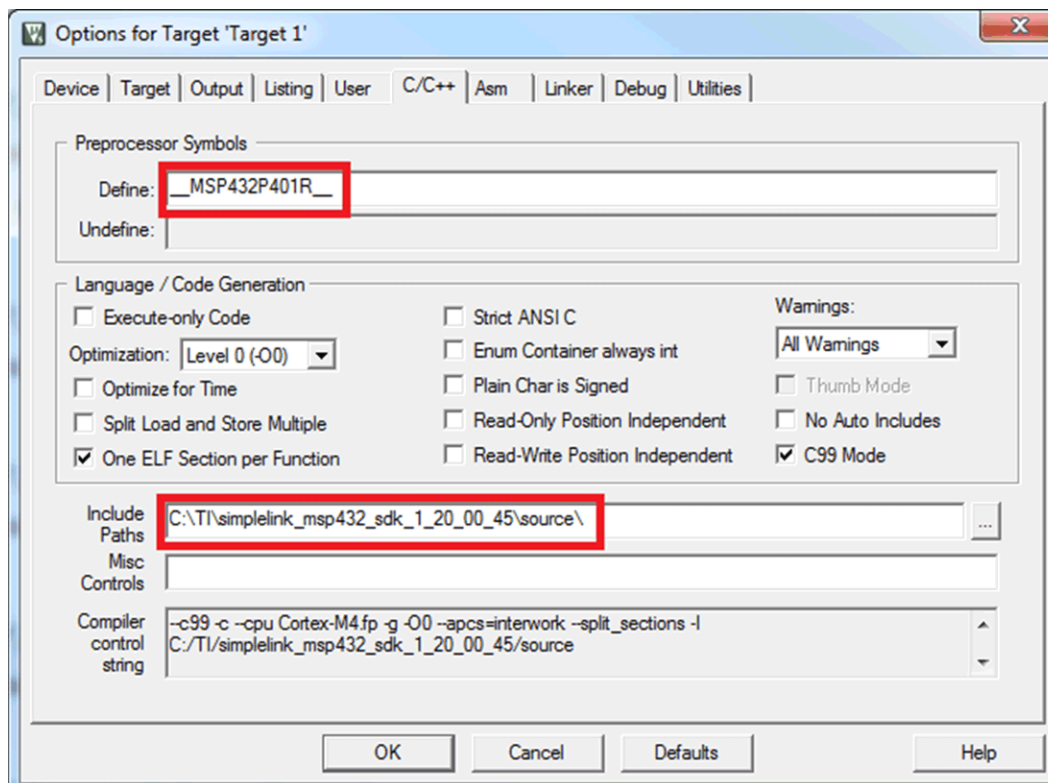

Figure 44. Adding Path to the Driver Library Folder
2. If the path to the driver library headers and sources is not yet included in the project, add it now. Right-click on the active µVision project, then select Options for Target. Add the include path to the driver library source folder in the C/C++ options (see Figure 44). For example, add "C:\TI\simplelink_msp432_sdk_1_20_00_45\source\".